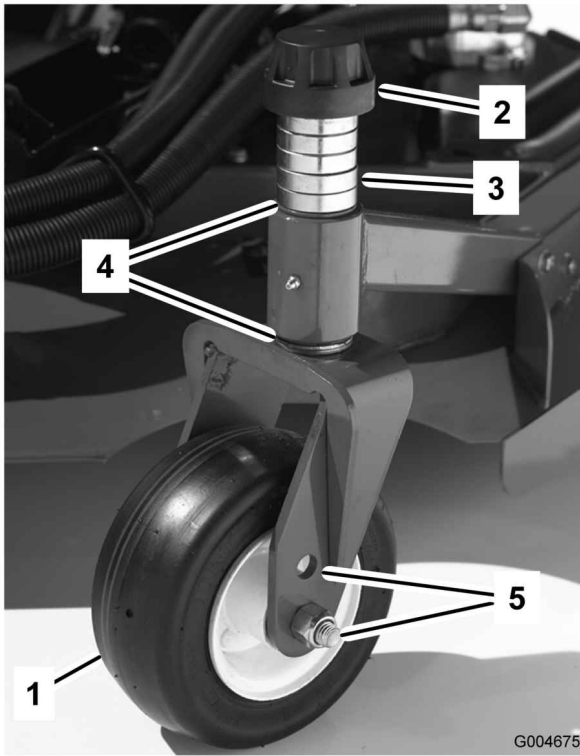
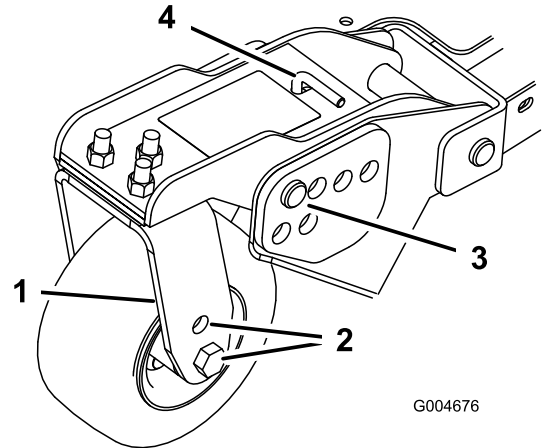
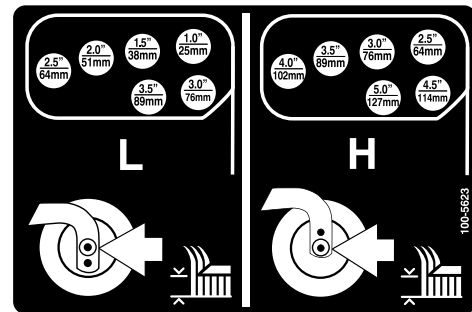

Figure 18
Figure 20
Figure 21
- Position the castor wheel axles in the same holes in all of the castor forks (Figure 18 and Figure 20). Refer to the following chart to determine the correct hole for the setting.
- Remove the tensioning cap from the spindle shaft (Figure 18) and slide the spindle out of castor arm. Put the two shims (1/8 inch [3 mm]) onto spindle shaft as they were originally installed. These shims are required to achieve a level across the entire width of the cutting units. Slide the appropriate number of 1/2 inch spacers onto the spindle shaft to get the desired height-of-cut; then slide the washer onto the shaft.
- Remove the hairpin cotter and clevis pins from the castor pivot arms (Figure 20).
height-of-cut bracket holes in the cutting unit frame (Figure 20 and Figure 21).